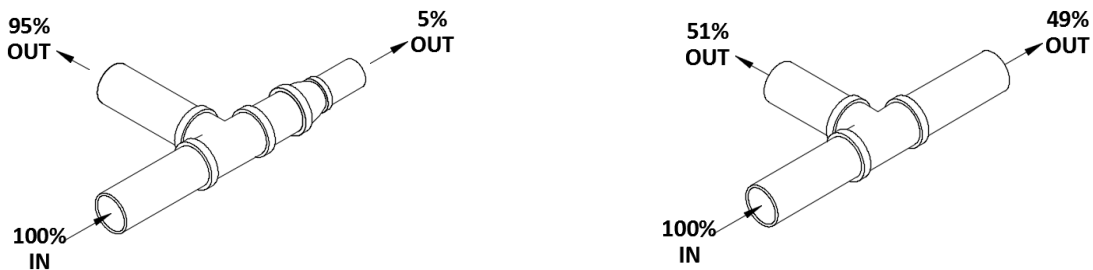

Figure 57 - Incorrect T-Split Ratios
- Step 1. Confirm the cylinder location and mount the rear Unistrut channel to the mounting surface using suitable anchors provided by others. See Figure 57 for Unistrut mounting heights.